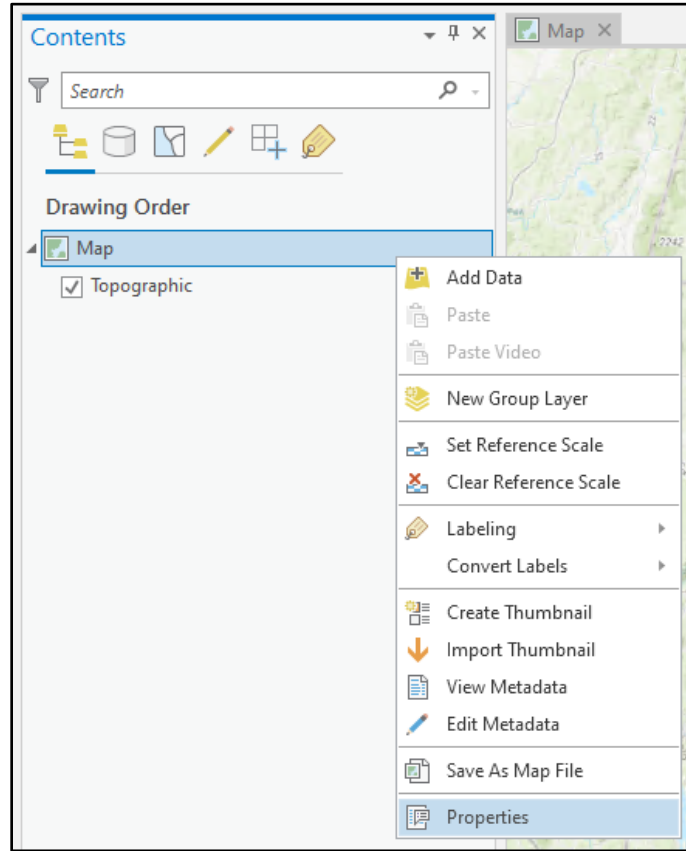

Figure 25. Map properties in ArcGIS Pro.
- Check coordinate system of template by checking map properties (right click on Map in table of contents and select properties), as shown in Figure 25 below.